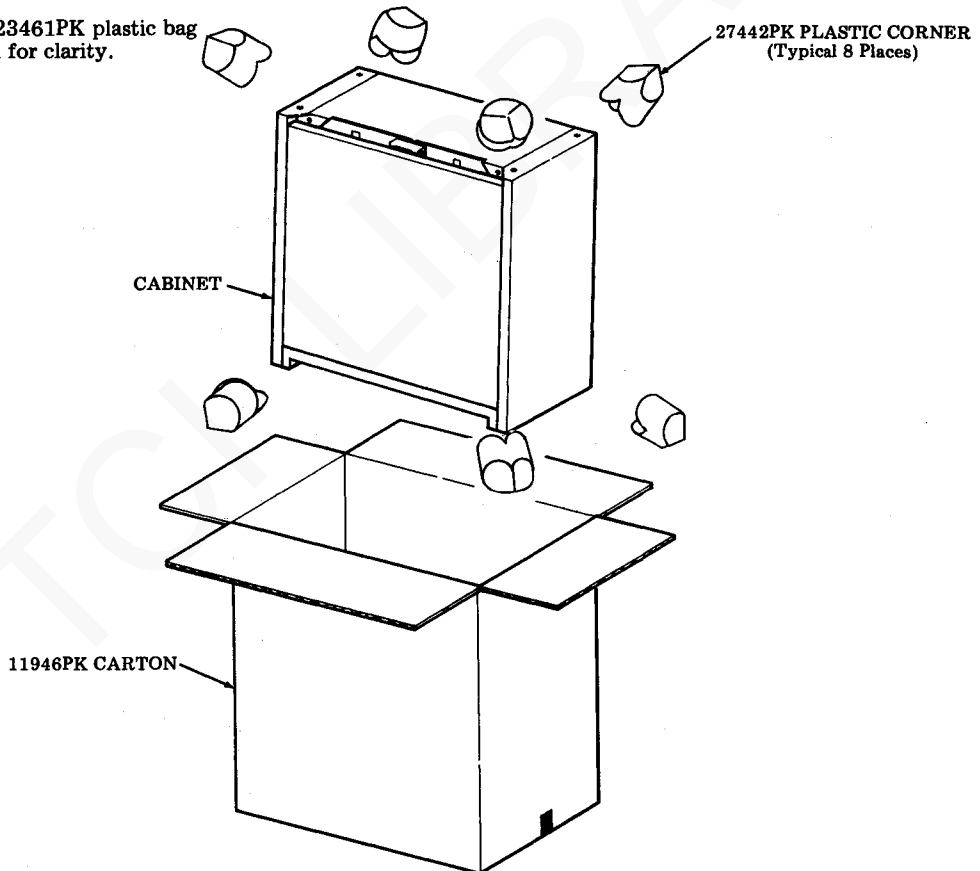

Fig. 35
- Step 5. Place a 27442PK plastic corner on each of the four corners of the cabinet top. See Fig. 35.